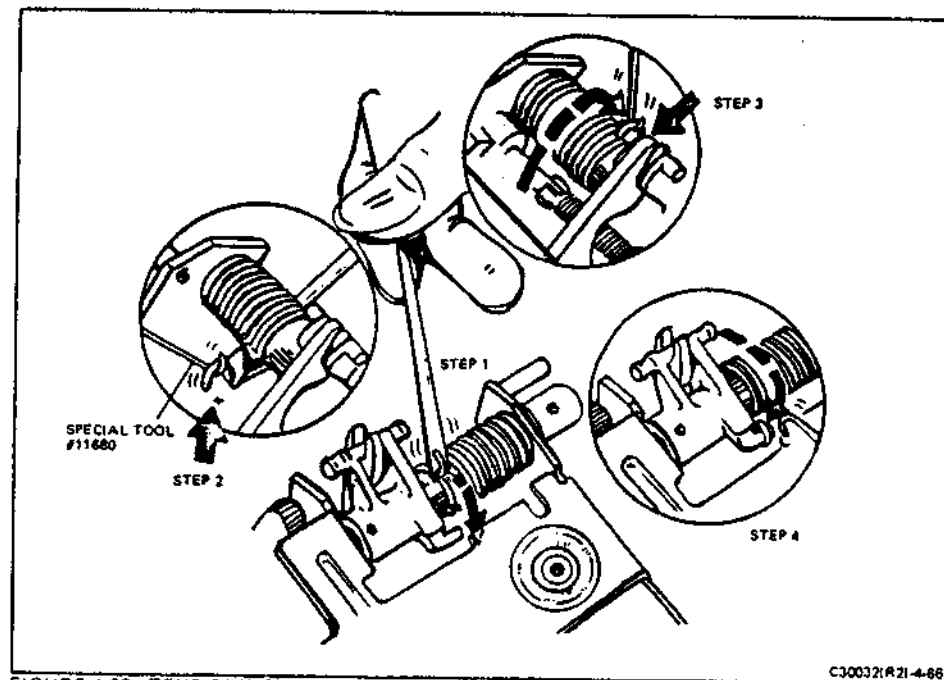

FIGURE 4-66 TENSIONING THE FRESNEL DRIVE SPRING
39. Engage the hook on the end of the Fresnel carrier drive spring with the notched blade of the modified jeweler's screwdriver (Figure 4-66, step 1).
40. Feed the hooked end of Special Tool #11680 under the spring, engaging the tool with the hooked end of the spring (Figure 4-66, step 2).
41. Pull the end of the spring completely around and temporarily secure it on the override spring mounting lug (Figure 4-66, step 3). Put aside the pulling tool.
42. Using the notched-blade screwdriver, push the end of the spring down, securing it on the bell-crank retaining stud (Figure 4-66, step 4 and step 1).